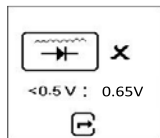

Fig.56
- If the ripple voltage is above 0.5V then it will display (Fig.56) as below: